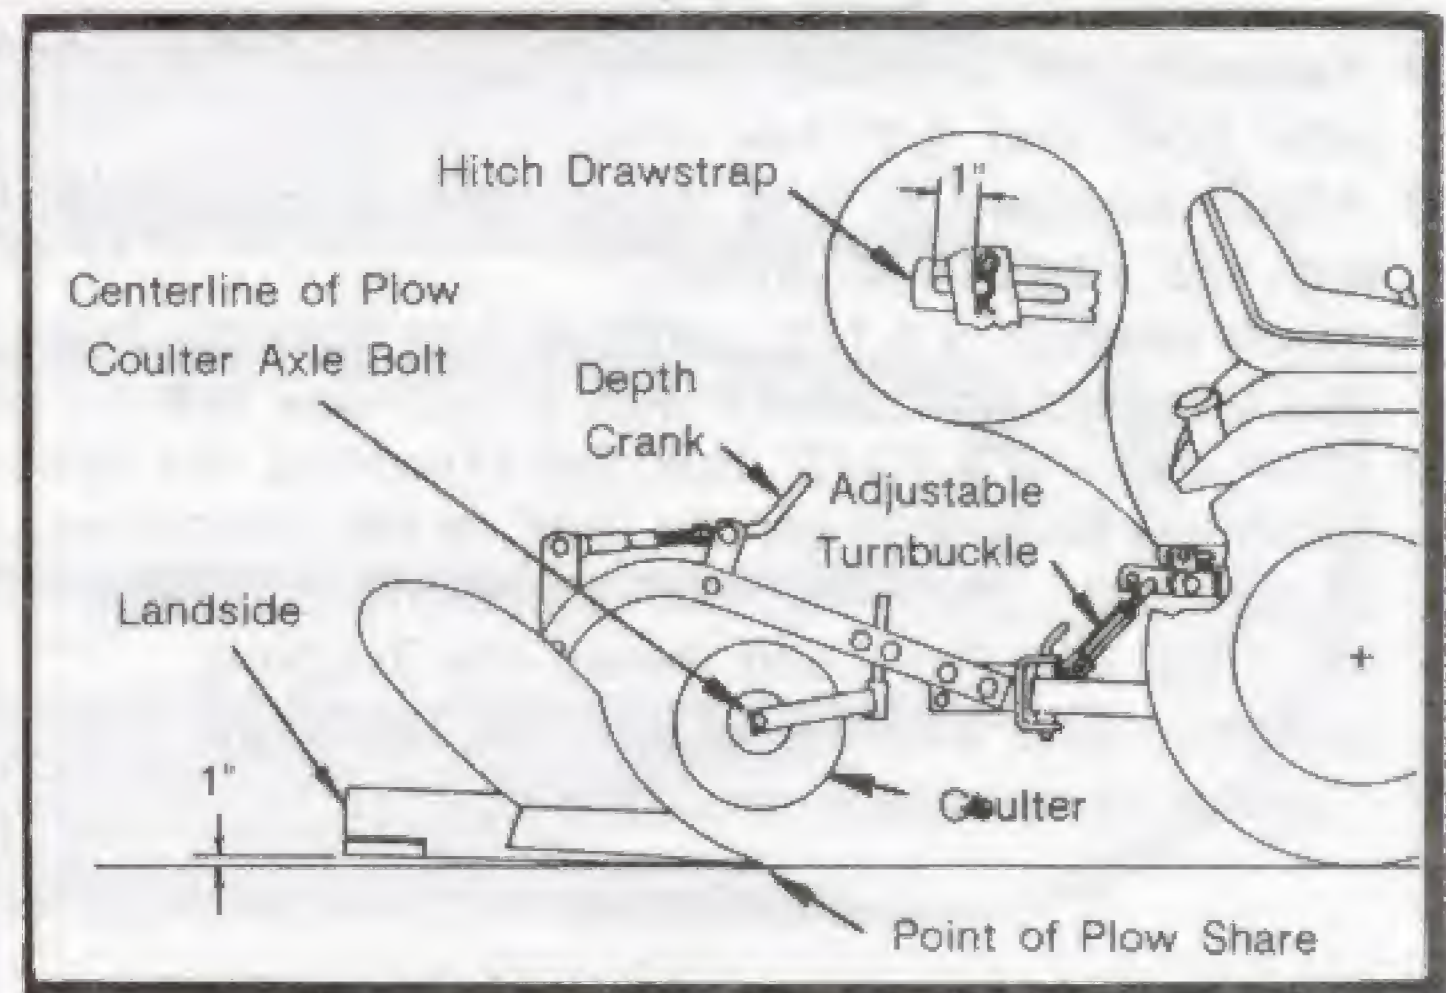

FIG. 5
PREADJUSTMENT [Refer to Fig. 5 and 6]
- Adjust the Depth Crank of Plow until Point of Plow Share is on the ground and the rear of Plow Landside is approximately 1" off the ground. (Refer to Figure 5)